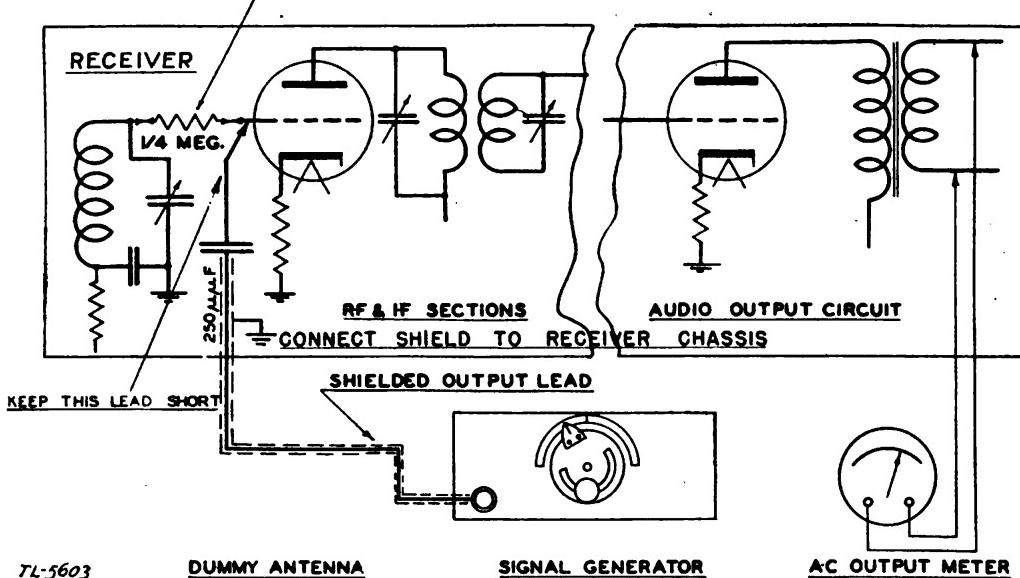

FIGURE 3.—Method of connecting signal generator to radio receiver for alinement.
*b. Method of connection.*—With the output meter connected across the audio output of the receiver as shown in figure 3, disconnect the lead from the control-grid terminal of the first detector tube. Place an isolating resistor of  $\frac{1}{4}$  megohm in series with this lead and reconnect to the terminal from which it was removed. This resistor will minimize the effect of the tuned circuit upon the stage under test while maintaining proper bias on the grid. Connect the signal generator to the grid through a  $250\mu\mu\text{f}$  capacitor in series with the output lead of the signal generator and connect the shielded braid of the signal generator output lead to the receiver chassis as shown in figure 3.